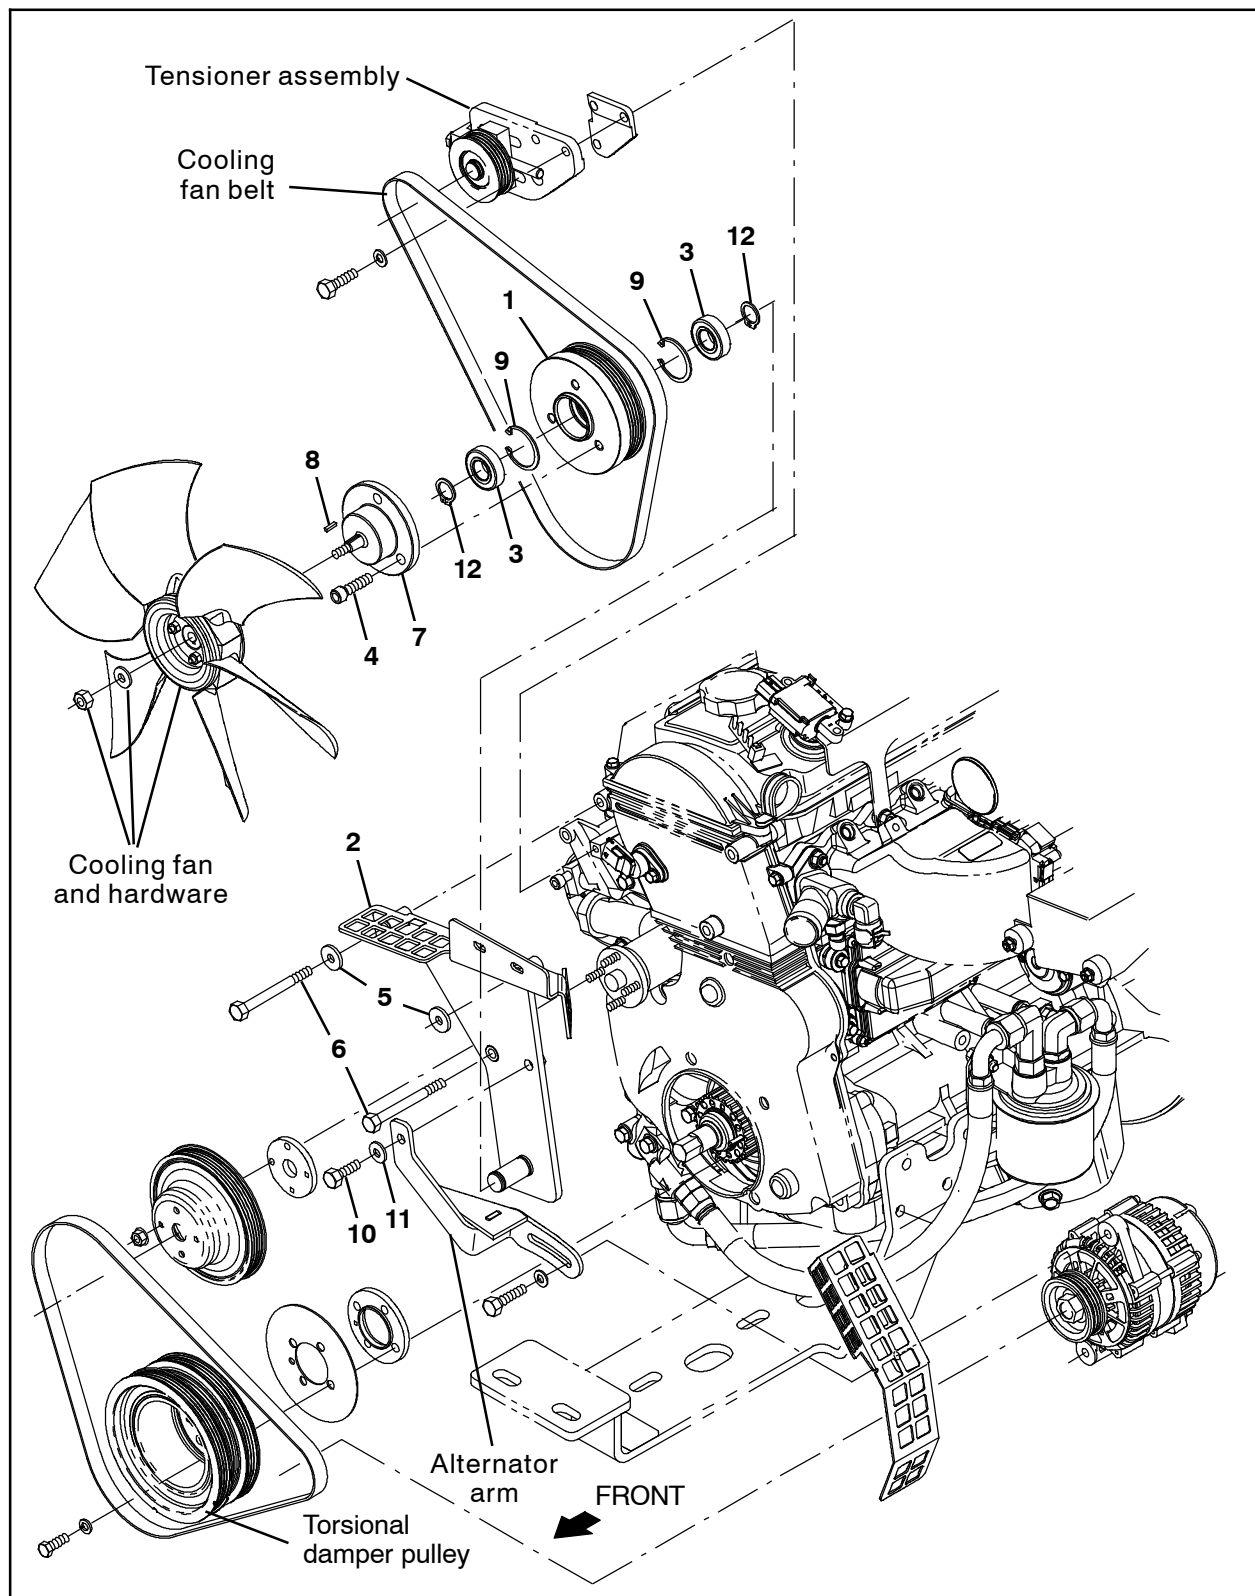

FIG. 3
14. Insert both retaining rings (9) into the new sheave (1). (Fig. 3)
15. Press both ball bearings (3) into the sheave (1) and against the retaining rings (9) installed in the previous step. (Fig. 3)
16. Install one retaining ring (12) into the inner notch in the fan shaft plate (2) shaft. (Fig. 3)
17. Apply a light/even coat of anaerobic adhesive (13) onto the shaft of the fan shaft plate (2) and the inner portion of both ball bearings (3) pressed into the sheave (1) in the previous step. (Fig. 3)
18. Slide the sheave (1) onto the fan shaft plate (2). (Fig. 3)
19. Install the remaining retaining ring (12) into the outer notch in the fan shaft plate (2) shaft to completely secure the sheave (1) onto the shaft. (Fig. 3)
20. Use three M8 hex screws (6) and three flat washers (5) to install the fan shaft plate assembly (2) onto the engine. (Fig. 3)
21. Use three socket screws (4) to install the fan spacer (7) onto the sheave assembly (1). (Fig. 3)
22. Use one M8 hex screw (10) and one flat washer (11) to install the alternator arm onto the fan shaft plate (2). (Fig. 3)
23. Tighten loosened hardware to fully secure the alternator arm to the alternator. (Fig. 3)
24. Position the engine belt onto the sheave (1), torsional damper pulley, and the tensioner assembly pulley. (Fig. 3)
25. Insert the key (8) into the notch in the fan spacer (7). (Fig. 3)
26. Install the cooling fan onto the fan spacer (7). Be sure the key (8) remains in the notch when installing the cooling fan onto the fan spacer. (Fig. 3)
29. Use saved hardware to install the fan shroud onto the fan shaft plate assembly (2).